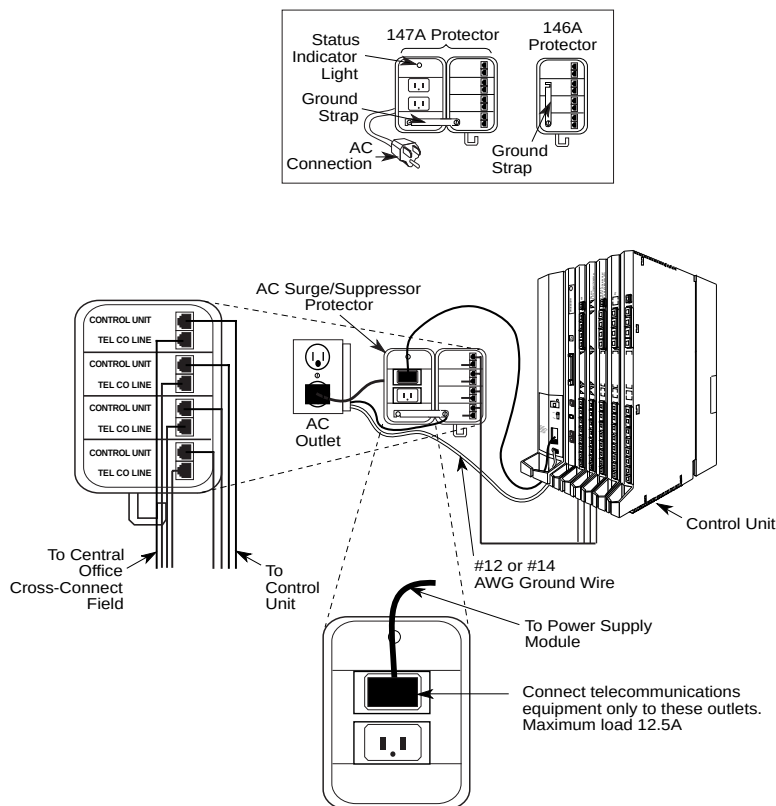

Figure 2-4. Installing 146A and 147A Protectors
- For more than 16 trunks, add another 147A protector and continue adding 146A protectors as needed. See Table 2–3 for various configurations and Figure 2-4 on page 2-16 for a typical 147A protector installation.